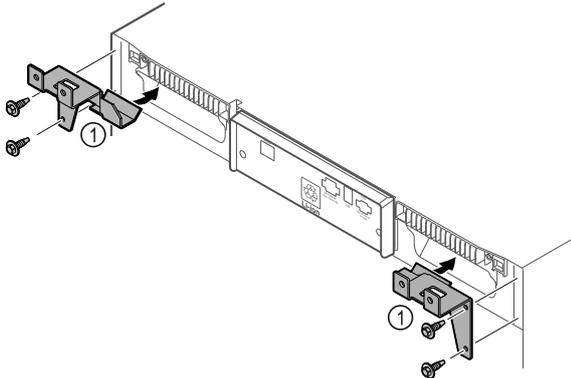

Fig. 52
- ▶ Fit the retaining parts Fig. 52 (1) to the device with self-tapping screws.